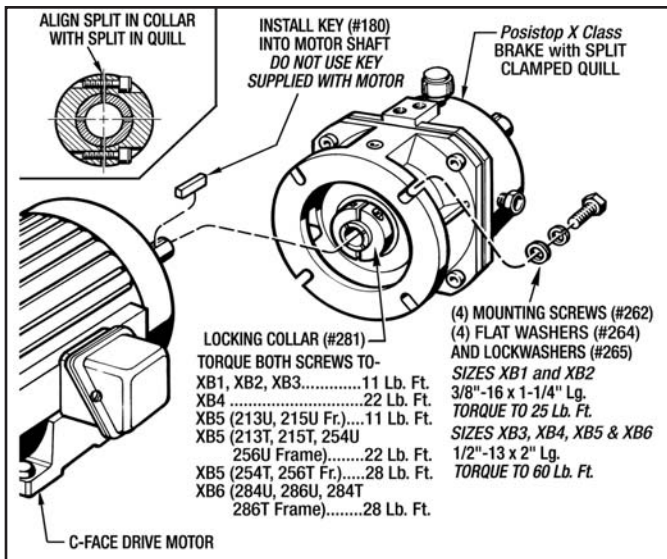

Figure 3.1 - *Posistop* X Class Brake Installation
3-2 MOUNTING THE BRAKE WITH SPLIT CLAMP QUILL TO THE DRIVE MOTOR (See *Figure 3.1*)
4. Slip the *Posistop* Brake onto the motor shaft with the Key (#180) aligned with the keyway in the Input Shaft (#2) as shown in *Figure 3.1*. Push the Brake Unit until it seats firmly onto the motor pilot diameter.
5. Attach the *Posistop* Brake with the (4) Hex Hd. Mounting Screws (#262) and (4) Lock Washers (#265). **Only finger tighten them at this time. Make sure the brake is snug up against the drive motor.**
6. Torque the (2) Screws in the Locking Collar (#281) in an even manner to the correct torque as shown in *Figure 3.1*.
9. Evenly torque the (4) Mounting Screws (#262) in an opposite manner to the specified torque as shown in *Figure 3.1*.